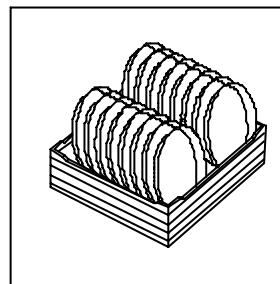

Fig.10
- Put plates in the baskets, making sure each is in its separate rack (Fig. 10).